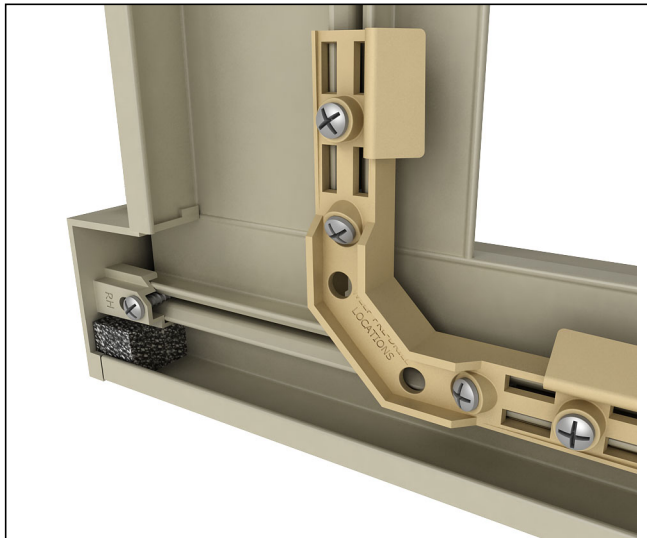

Figure 45
3. Press reticulated foam onto pegs on sill end cap, making sure it covers the weep hole, and attach the sill nosing end caps to sill with supplied screws. Attach flat end caps to head jamb using supplied screws. Align casing with tab on end caps. See *figure 45*.